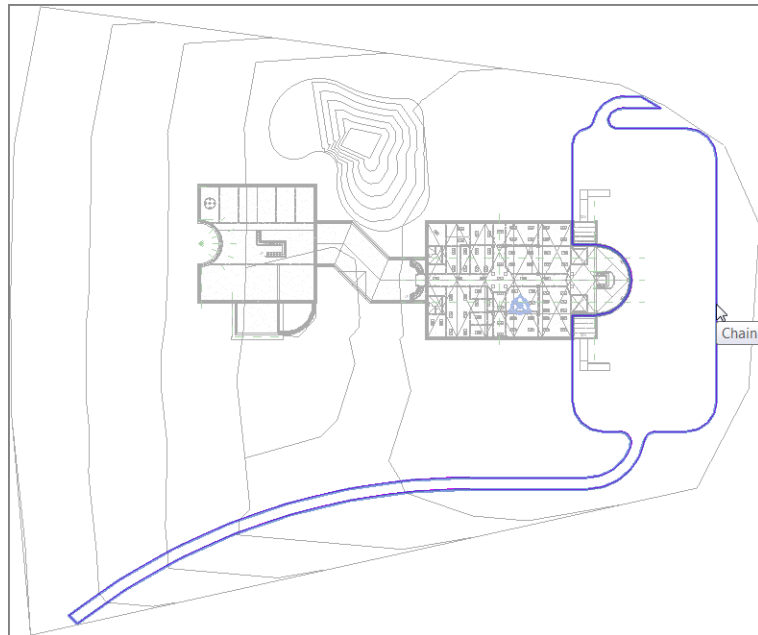

FIGURE 18.10: Sketching the subregion
5. Draw a region similar to the one shown in Figure 18.10. (It doesn't have to be exact.) This image shows a parking area with some pedestrian access. The inside of the parking area follows the building footprint. Pick Finish Edit Mode.